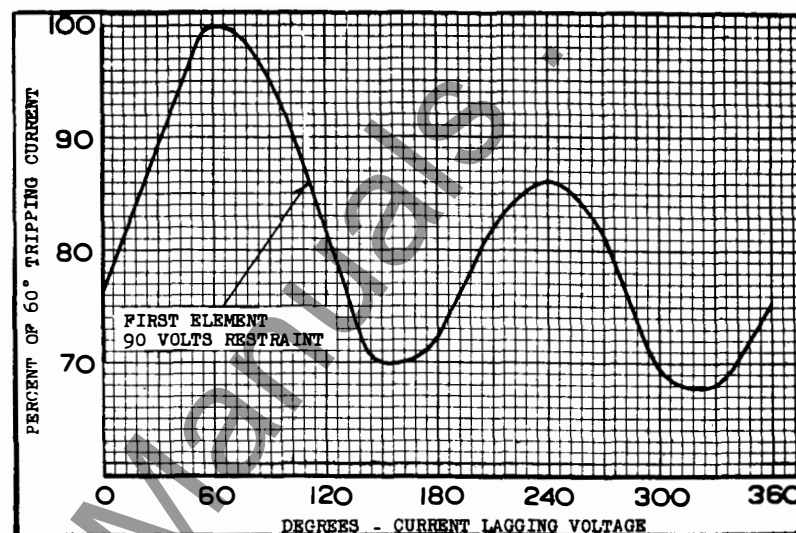

Fig. 5. Typical Phase Angle Curve of the Impedance Unit (HZ)
Equation(1) applies if the protected line section impedance angle is 60°. At other line angles the settings can be corrected by using Fig. 5. For example, if the line angle is 45°, the unit will operate at 96% of the 60° tripping current. Therefore, reduce the TS product by 4% (100% - 96%).